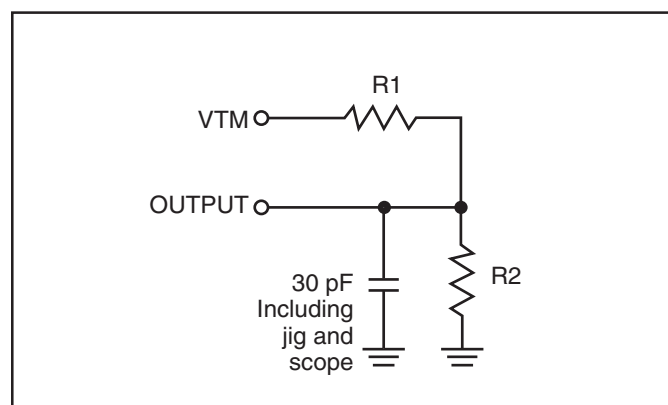

Figure 1
1. Test conditions assume signal transition times of 5 ns or less, timing reference levels of 0.9V/1.5V, input pulse levels of 0.4 to $V_{DD}-0.2V/V_{DD}-0.3V$ and output loading specified in Figure 1.
1. Test conditions assume signal transition times of 5 ns or less, timing reference levels of 0.9V/1.5V, input pulse levels of 0.4V to $V_{DD}-0.2V/V_{DD}-0.3V$ and output loading specified in Figure 1.